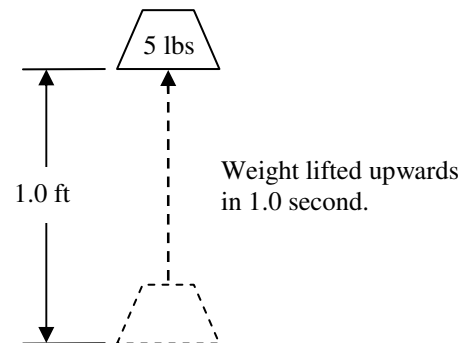

Figure 1: Weight Lifted 1 ft Upwards in 1 Second
Suppose we lift a 5-lb weight upward a distance of 1 ft, as shown in Figure 1, and we do it 1 second’s time. Using Eq. (2), we find that